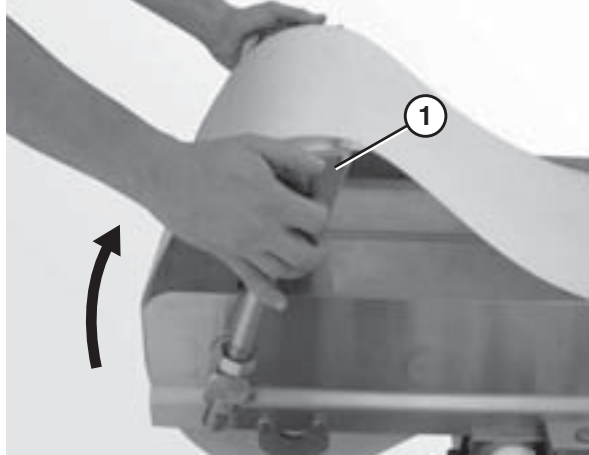

Figure 43
1. Place the idler tail (Figure 43, item 1) in the up position.